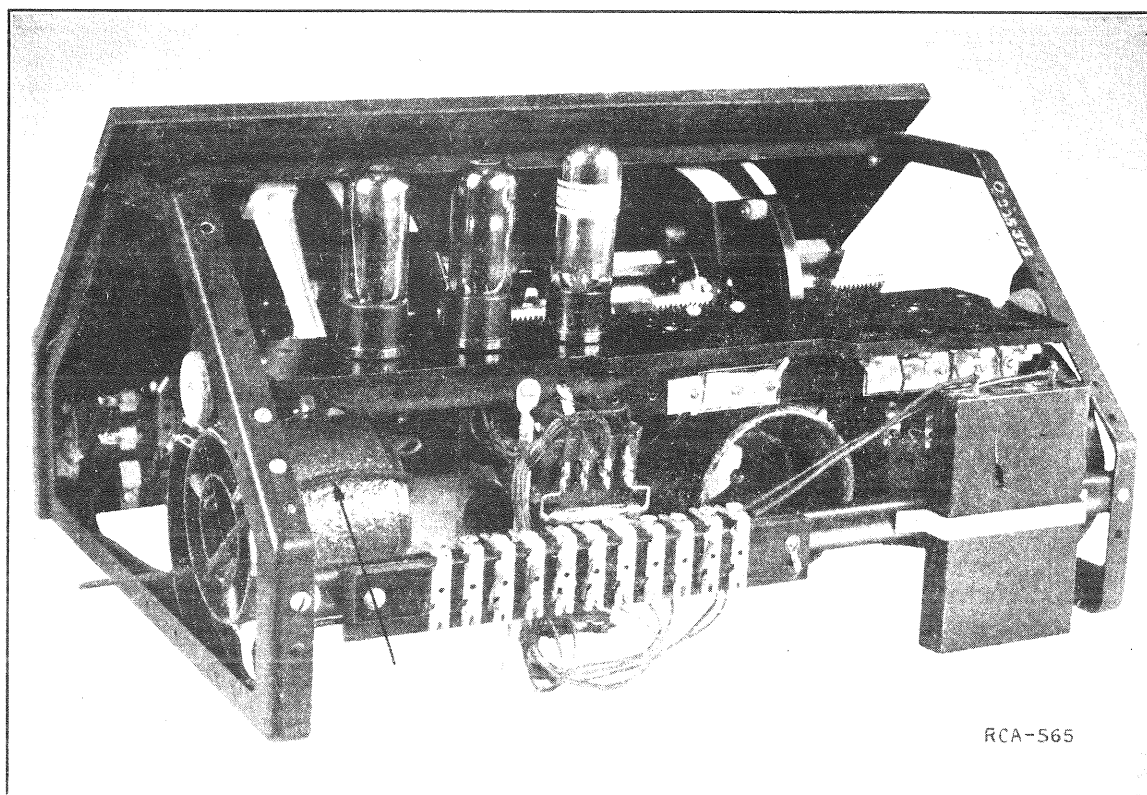
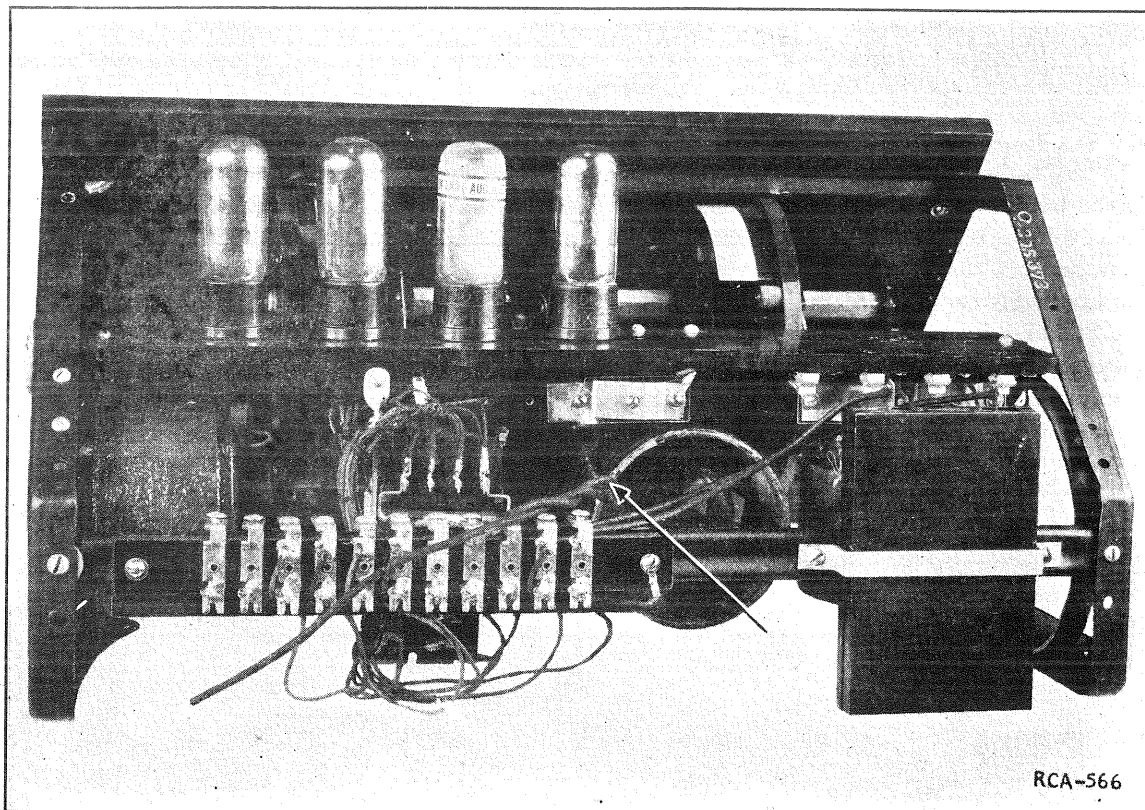
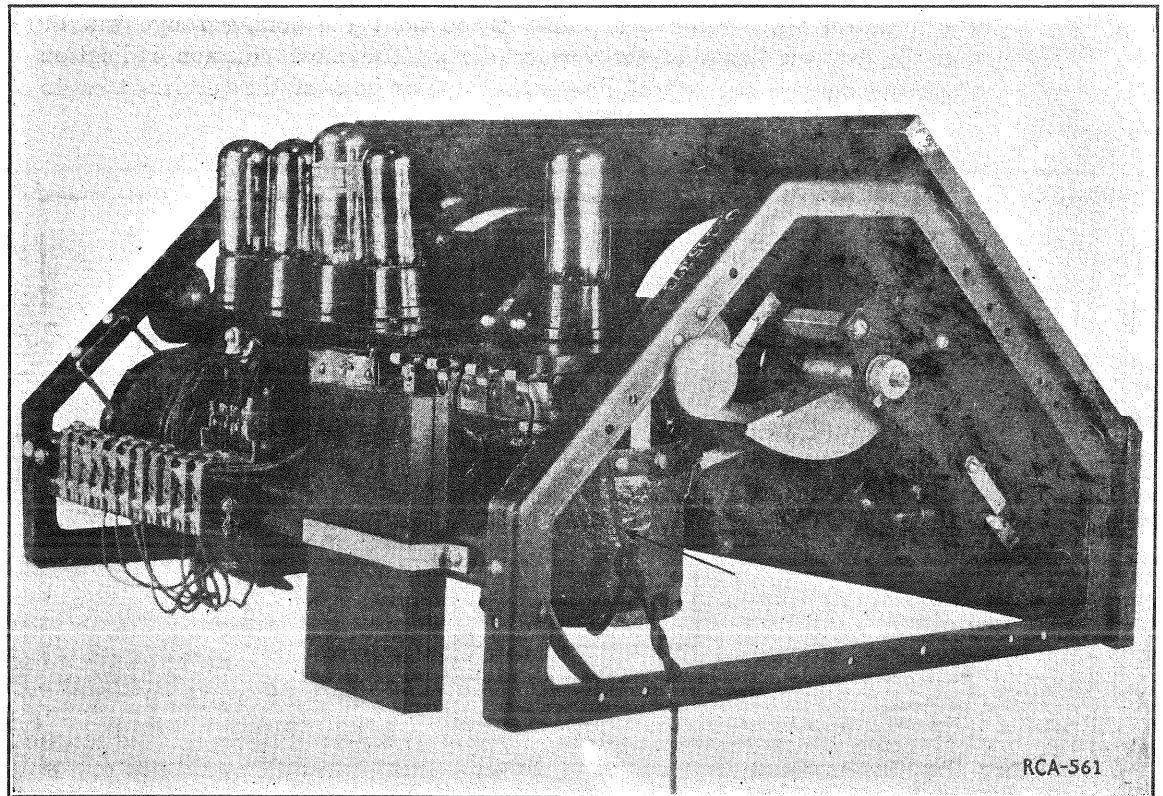

Figure 7
Figure 8
Figure 9
- (1) Remove panel from cabinet and connect up in usual manner with the exception that no antenna or ground are used.
- (2) Put modulated oscillator in operation at 550 K.C., locating it about 20 feet from receiver. One end of the pick-up wire is laid about a foot from the oscillator and the other end wound once around the 2nd R. F. Transformer. This is the third coupler from the left facing the panel from the front. See Fig. 7. Remove Radiotrons from sockets 1 and 2.
- (3) Set verniers at 5 and tune in signal, using Station Selector Drum only. It will be necessary to amplify the signal, using the amplification drum and volume control, in order to hear the signal in the head phones. This maximum signal point is then noted on the Station Selector Dial with a pencil.
- (4) Remove pick-up wire and place it around the 1st R. F. Transformer. This is the center transformer. See Fig. 8. Replace Radiotron No. 2, leaving No. 1 out.
- (5) Tune in signal as before without using verniers and note if the point of maximum signal as marked on the Station Selector Dial, is the same as when the pick-up was on the 2nd R. F. Transformer. If not, note whether a variation of more than two degrees plus or minus of the vernier (one to the right) will cause the point of maximum signal strength to coincide with the first marking. If more than a two degree vernier adjustment is necessary the center condenser should be slipped slightly at the shaft coupling until not more than 2 degrees plus or minus vernier variation will cause the point of maximum signal strength to coincide with the dial marking.
- (6) Remove pick-up wire from 1st R. F. Transformer and place around antenna coupler in same manner. This is the first transformer from the left when facing the Radiola from the front. See Fig. 9. Replace Radiotron No. 1, thus retaining all Radiotrons in their respective sockets.